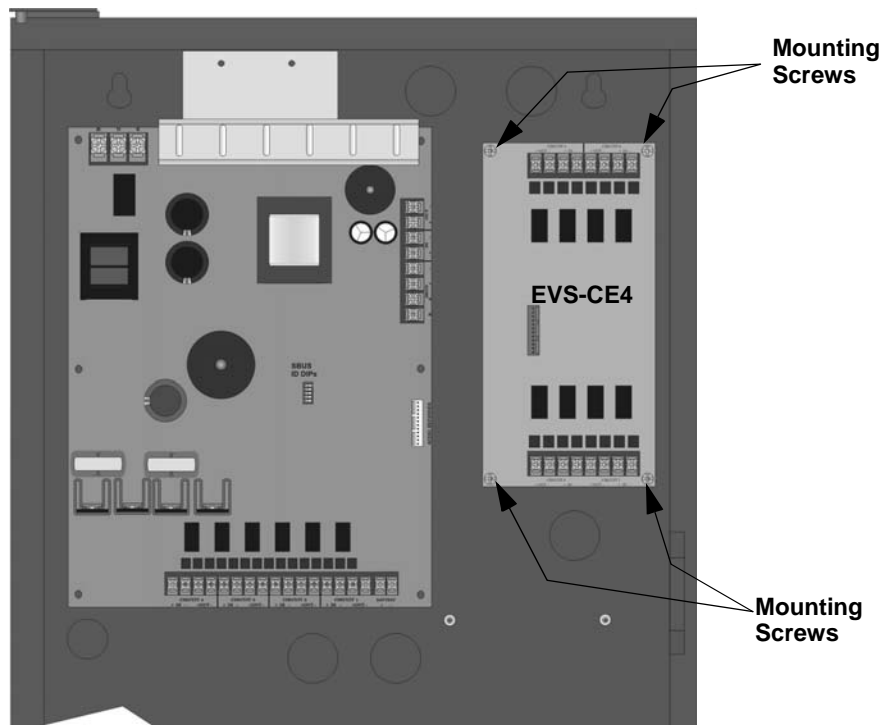

Figure 4-47 Mounting the EVS-CE4
1. Using the four supplied screws mount the EVS-CE4 in the EVS-50W or EVS-125W cabinet as shown in Figure 4-47.